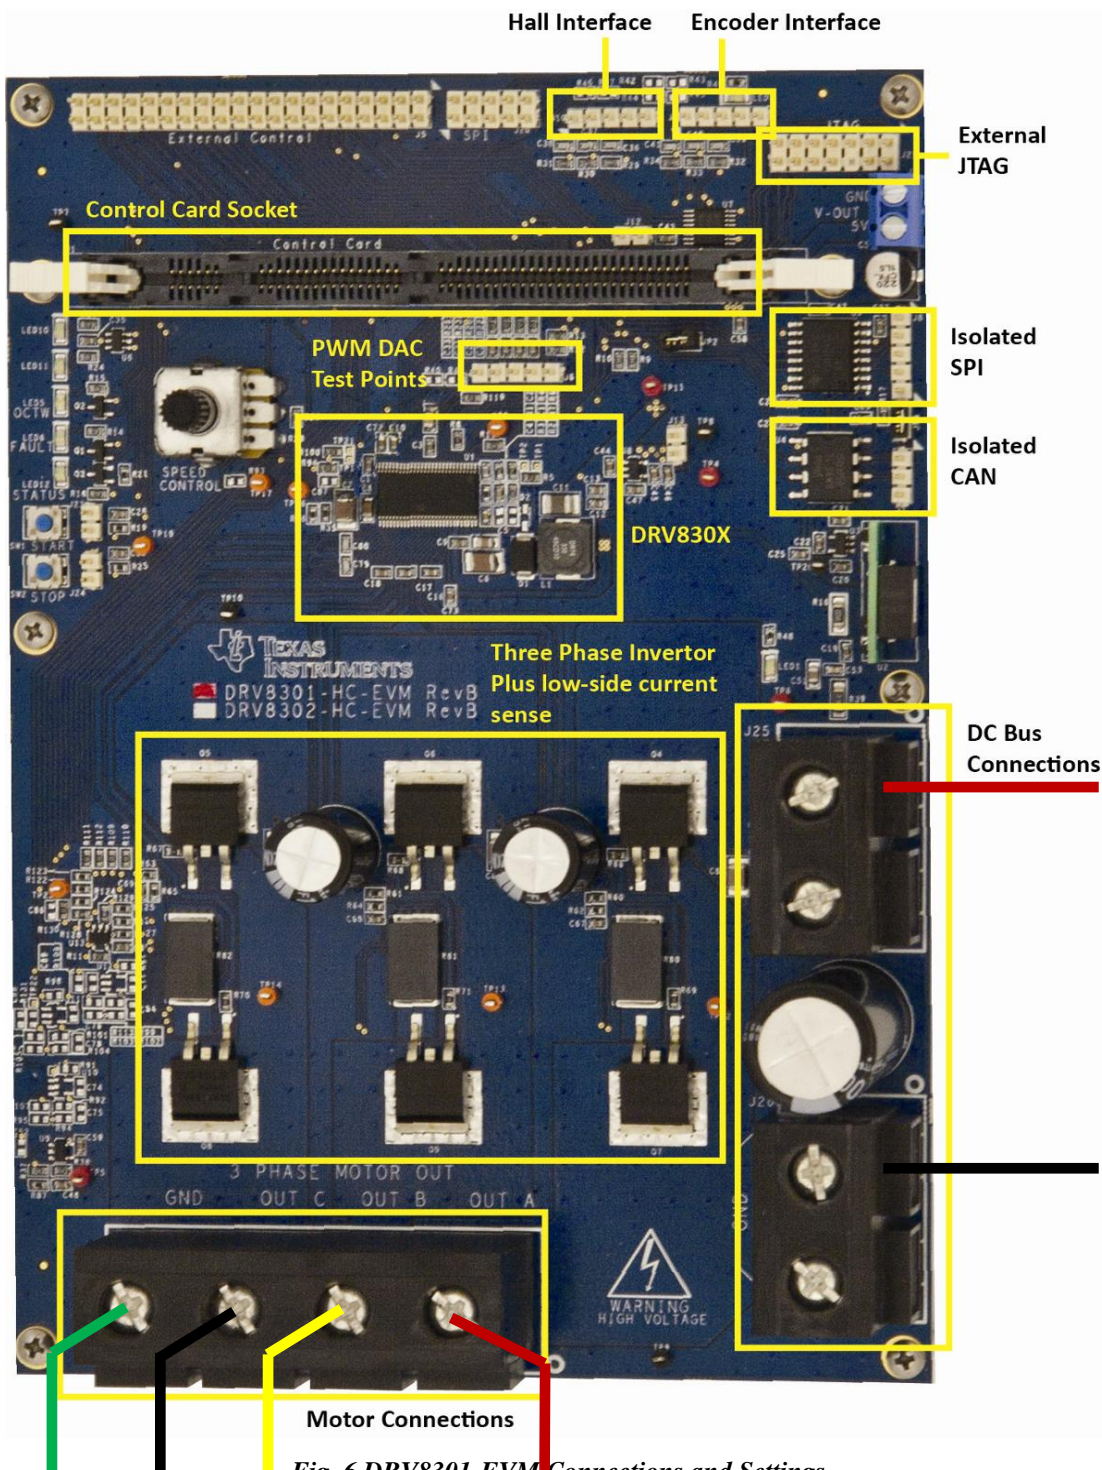

Fig. 6 DRV8301-EVM Connections and Settings
7. Connect a 24V power supply to J25(+ terminal) and J26(- terminal) of the DRV8301-EVM (refer to Figure 6). Now LED1 and LED3 should turn on. Notice the control card LEDs would light up as well indicating the control card is receiving power from the board.